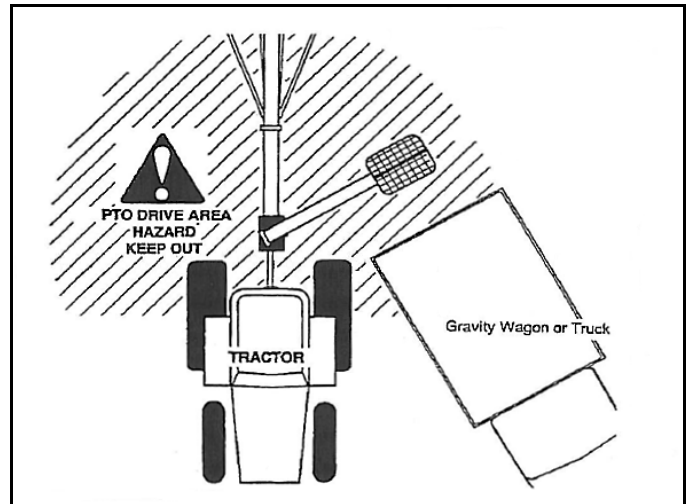

Figure 6
4. The PTO drive on the tractor is in the off position before starting tractor and the PTO hazard area is clear of all bystanders (Figure 6).